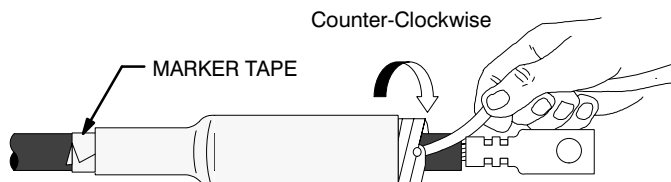

FIGURE 5
1. Position termination, aligning base with previously applied marker tape. (*FIGURE 5*)
2. Remove termination core by unwinding counter-clockwise, starting with loose end. Make sure the termination body is butted up to the edge of the marker tape (*FIGURE 5*)
3. Apply top seal: Using Scotch™ 70 Tape provided, apply 1 half-lapped layer over at least 1/2" (13 mm) of lug barrel and onto the termination insulator for 1" (25 mm). (*FIGURE 5*)